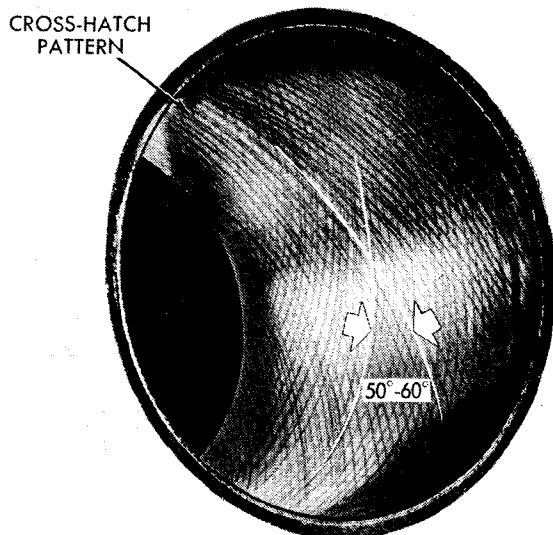

Fig. 30—Cross Hatch Pattern
(1) Used carefully, the cylinder bore resizing hone C-823 equipped with 220 grit stones and 390 extensions necessary with 400 cubic inch engines is the best tool for this job. In addition to deglazing, it will reduce taper and out-of-round as well as removing light scuffing, scoring or scratches. Usually, a few strokes will clean up a bore and maintain the required limits.
(2) Deglazing of the cylinder walls must be done using a cylinder surfacing hone, Tool C-3501, equipped with 280 grit stones (3501-3810) if the cylinder bore is straight and round. 20 to 60 strokes depending on the bore condition will be sufficient to provide a satisfactory surface. Inspect cylinder walls after each 20 strokes. Using honing oil C-3501-3880 or a light honing oil available from major oil distributors. **Do not use engine or transmission oil, mineral oil or kerosene.**
(3) Honing should be done by moving the hone up and down fast enough to get a cross-hatch pattern. When hone marks intersect at 50-60 degrees, cross hatch angle is most satisfactory for proper seating of rings (Fig. 30).
(4) After honing, it is necessary that the block be cleaned again to remove all traces of abrasives. Wash cylinder block and crankshaft thoroughly.